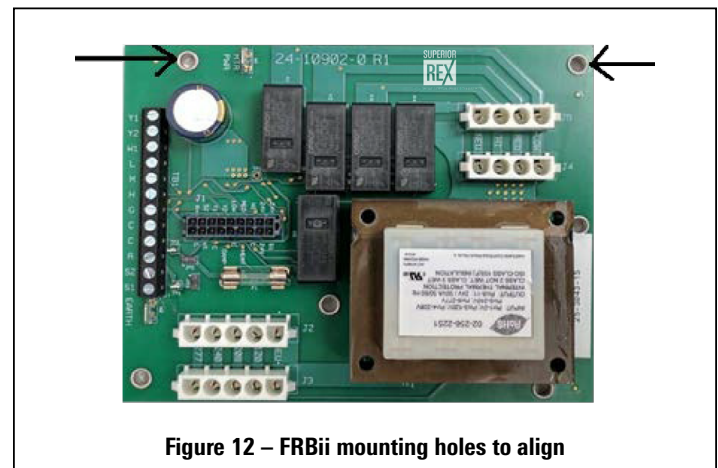
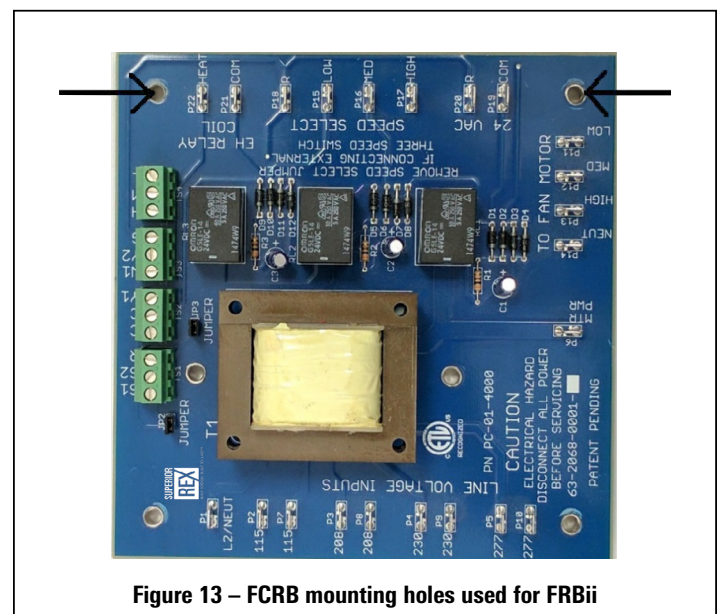

Figure 12 – FRBii mounting holes to align
Figure 13 – FCRB mounting holes used for FRBii
2. Align the two "top" mounting holes on the FRBii (see Figure 12) to the location of the two "top" holes from where the FCRB was mounted (see Figure 13).